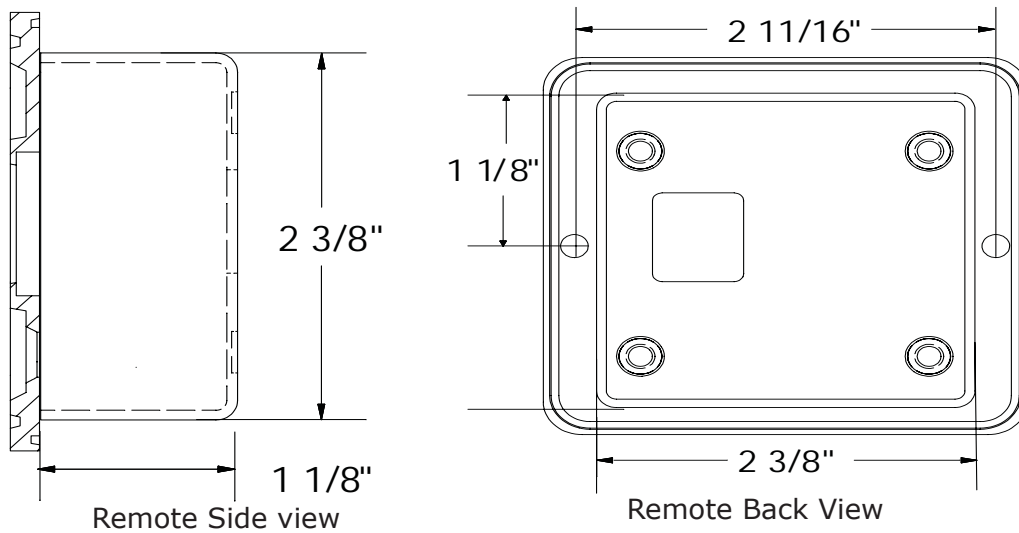

Figure 2-1, Flush Mount Remote Cut-Out Dimensions
1. Refer to figure 2-1 for flush mount hole cutout dimensions.